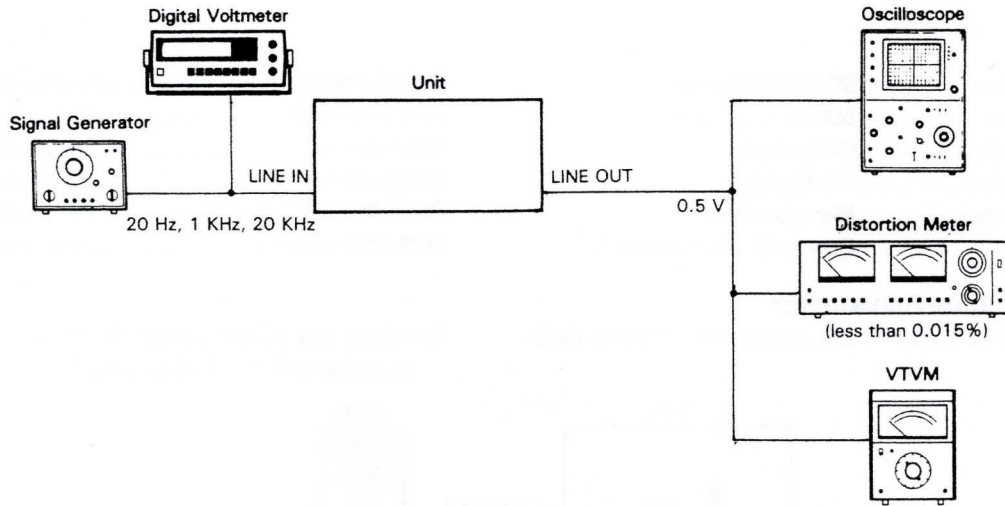

Fig. 4
1. Connect the test equipment to the unit as shown in fig. 4.